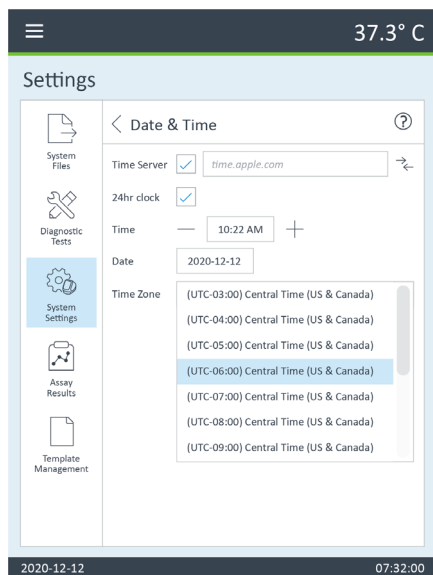

Figure 10. Select the local time zone for your XF HS Mini Analyzer
- 2 Select the **Date & Time** tab. (Figure 10)